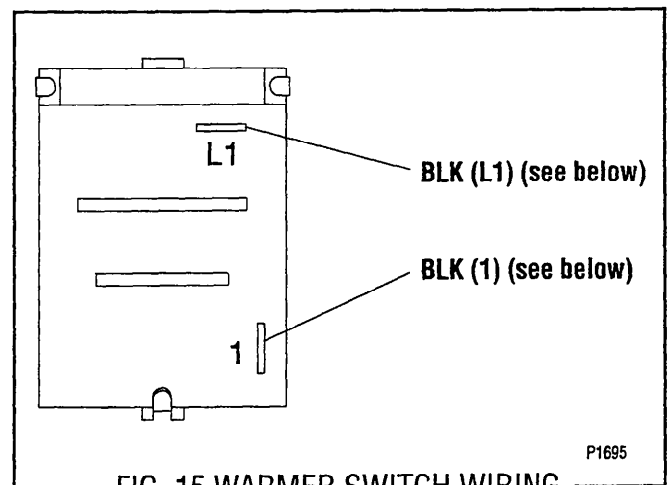

FIG. 15 WARMER SWITCH WIRING
4. Refer to FIG. 15 when reconnecting the wires.